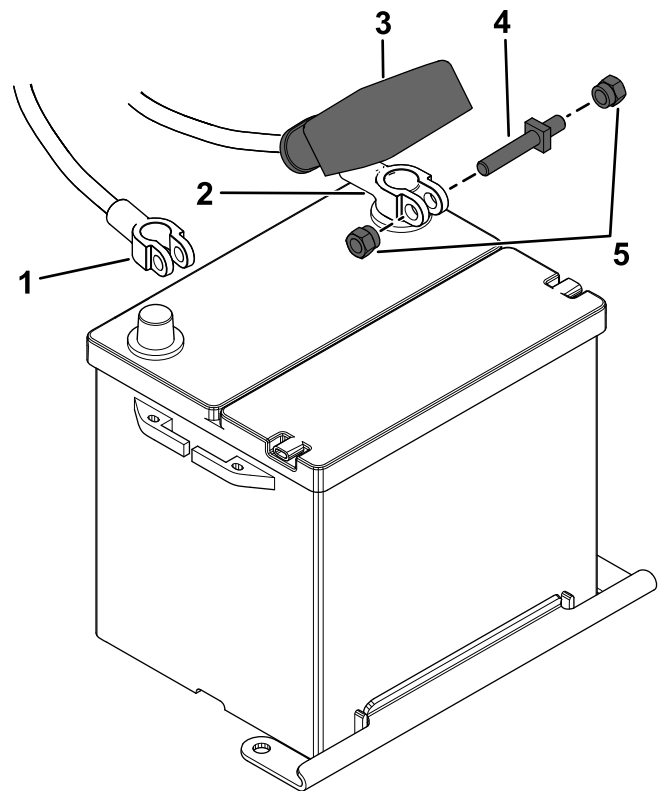

Figure 112
1. Disconnect the battery cables (Figure 112).
2. Connect the battery cables (Figure 112).